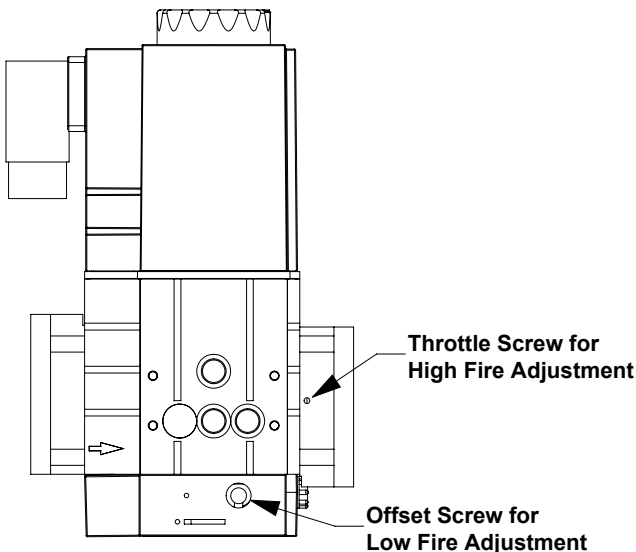

Figure 13: 1000-3000 Gas Valve
- e. High fire O₂ levels are adjusted with the gas shutter valve located on the outlet of the gas valve (*Figure 13*).
- b. Low fire O₂ levels are adjusted with the offset screw (*Figure 13*).